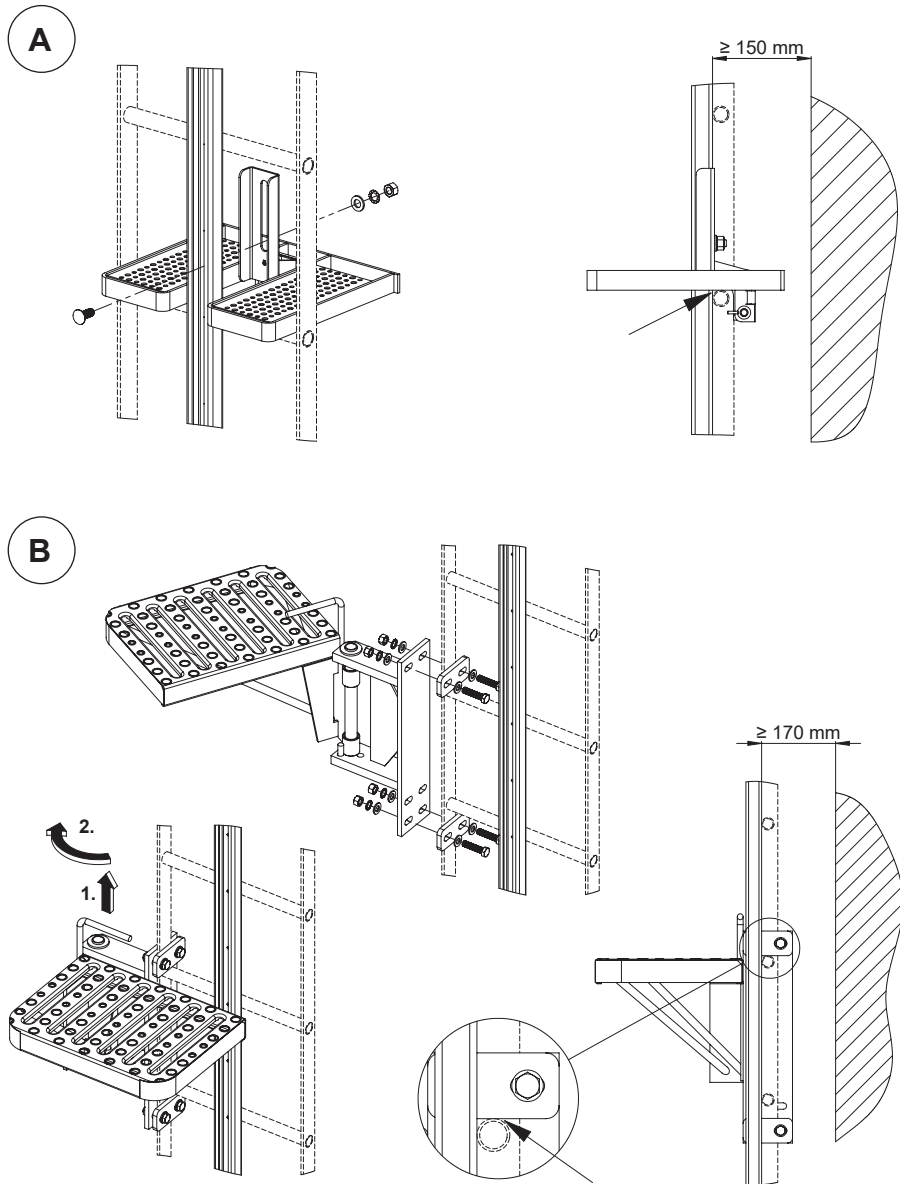

Fig. 2.5 - Folding footrest (A), pivotable footrest (B)
Fig. 2.5 - Upper rail end with (A) and without (B) rail reinforcement; drilling and assembly the reinforcement (A1); spacer dimensions based on the rung width (A2)